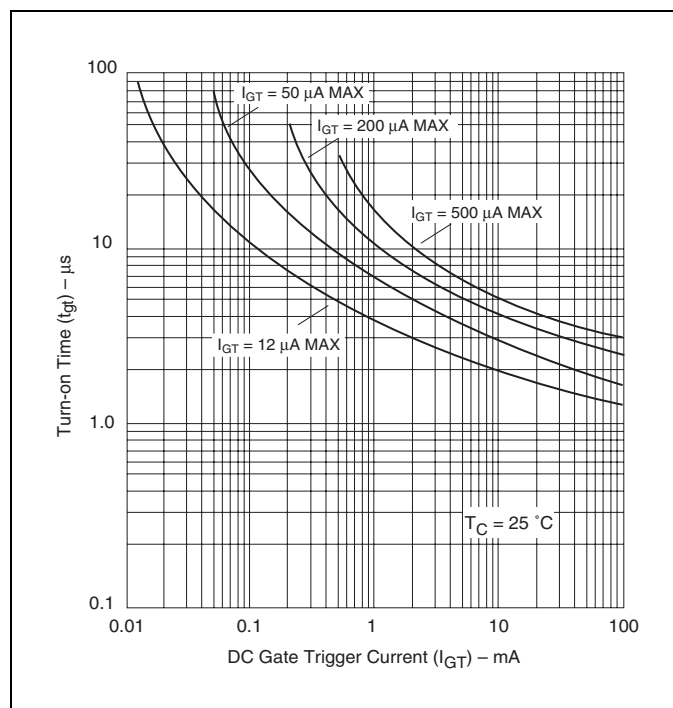

Figure E5.15 Typical Turn-on Time versus Gate Trigger Current
- See Figure E5.15 for t_{gt} versus I_{GT}.